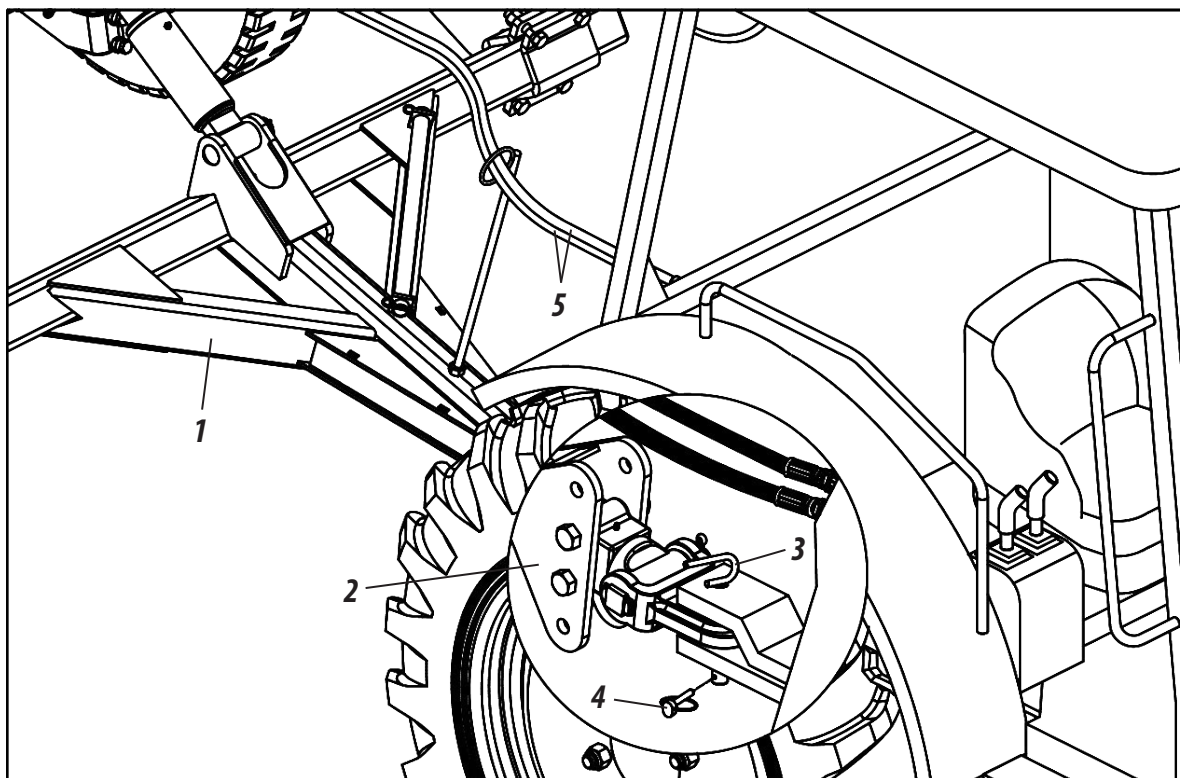

Figure 19
**TRACTOR HITCH - 5000 / 5500 (FIGURE 19)**